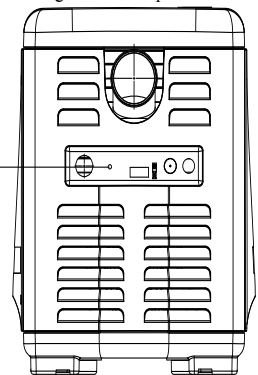

Figure 34
2. Locate the small hole in the exhaust panel, for the RS-485 cable. Use an appropriate size drill bit for the flexible conduit or strain relief to be used in the exhaust panel to drill a hole for the RS-485 wires. See Figure 34.